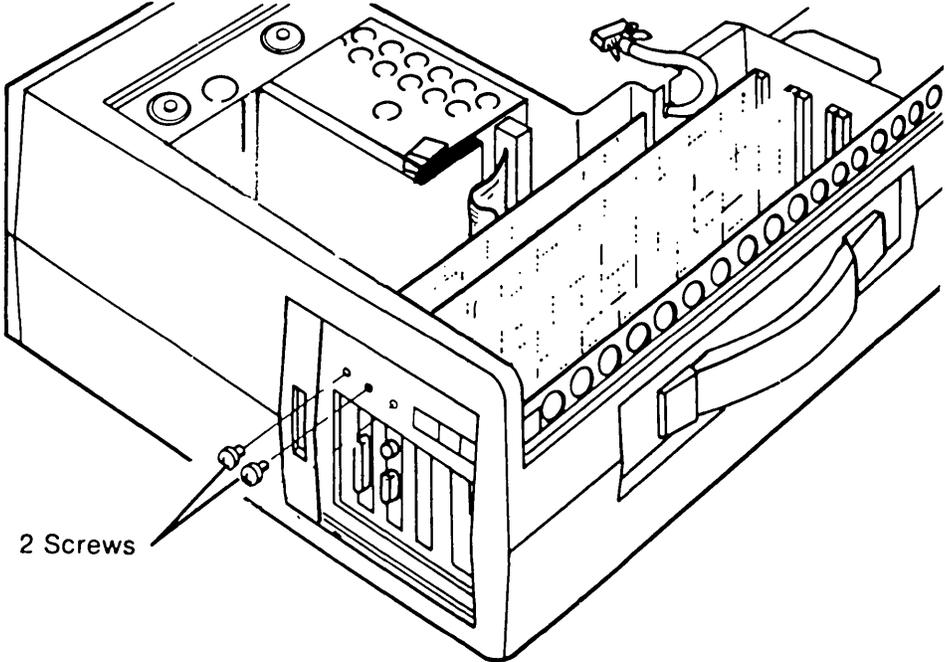

Figure 5-10. Removing the Screws Which Hold the Floppy/Printer Adapter Signal Cable Removed From Floppy/Printer Adapter Board.
- 6 Remove the retaining screws that secure the floppy/printer adapter board and the VDU adapter board to the system chassis (see Figure 5-10).